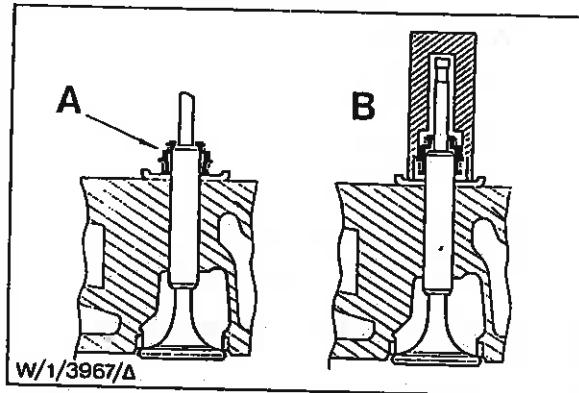

Fig. 43 - Fitting Inlet Valve Stem Seals on Naturally Aspirated Engines
**Inlet Valves of Naturally Aspirated engines:** Fit spring loaded type seals only to these valves. Install the seals with the Seal Installer (21-537) - see Fig. 43.